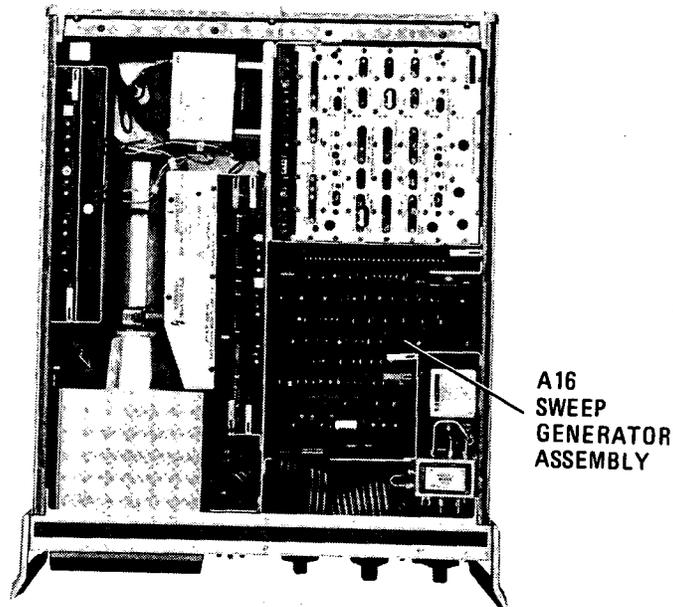

Figure 5-25. Sweep Generator Adjustment Locations
3. Connect digital voltmeter to A16TP3 + 10 VTV and use A16TP4 for ground return. Adjust A16R9 + 10 VTV for  $+10.00 \pm 0.01V$  (See Figure 5-25).